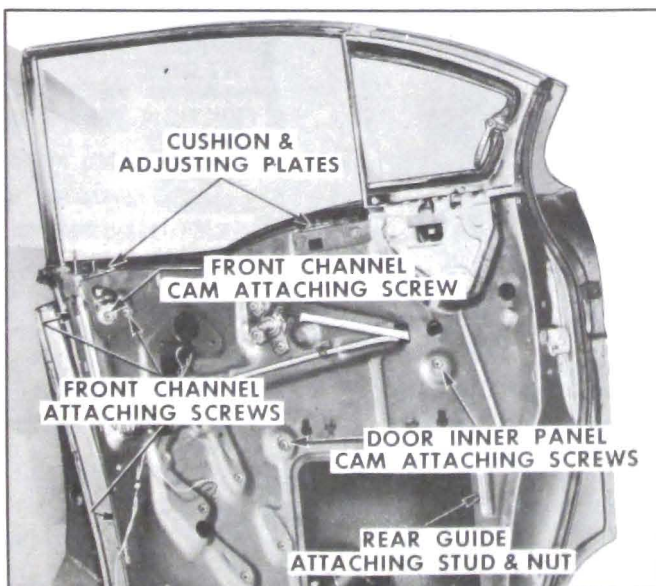

Figure 13-222—Rear Door Window Adjustment
1. "IN OR OUT" adjustment of front of window (top and/or bottom) — at door hinge pillar loosen window front channel assembly upper and lower attaching screws. Position channel assembly "in or out" as required; then tighten channel attaching screws. (See Fig. 13-222).
as required, then tighten attaching screw. (See Fig. 13-222).
NOTE: *Check that cushions are making proper contact with the window lower sash channel stops. If necessary, loosen cushion adjusting plate attaching screws and position adjusting plate and cushion "in or out" for proper contact with stop. (See Fig. 13-222.)*
5. "IN OR OUT" adjustment of window rear guide to provide proper alignment of the rear of the window with the ventilator inner and outer division channels — remove door trim assembly on inner panel water deflector. At location indicated in Fig. 13-222, loosen window rear guide lower attaching stud nut; adjust stud "in or out" as required for proper window operation.